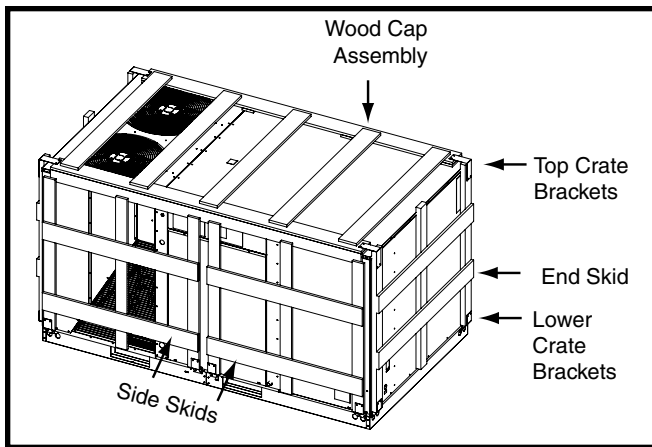

Figure 3. Side View
1. Remove top crate brackets and wooden cap assembly from top of unit. See Figure 3 \(page 5\).